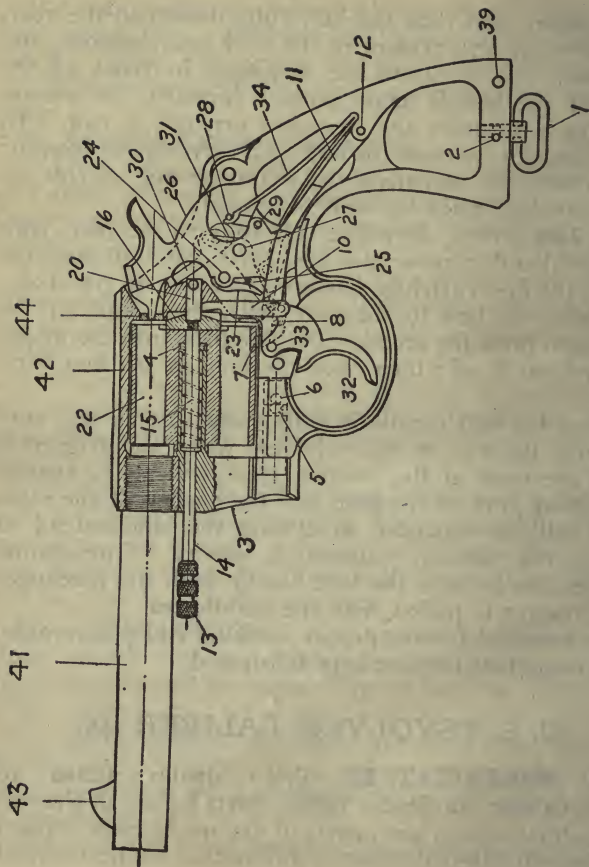

FIG. 38.—Colt's Double Action Revolver. Cal. .45.
189. **NOMENCLATURE.** Colt's double action revolver, Caliber .45, Model 1909. Parts. Fig. 38 shows a longitudinal section with parts of the mechanism exposed to view, with designations as follows: (1) butt swivel,